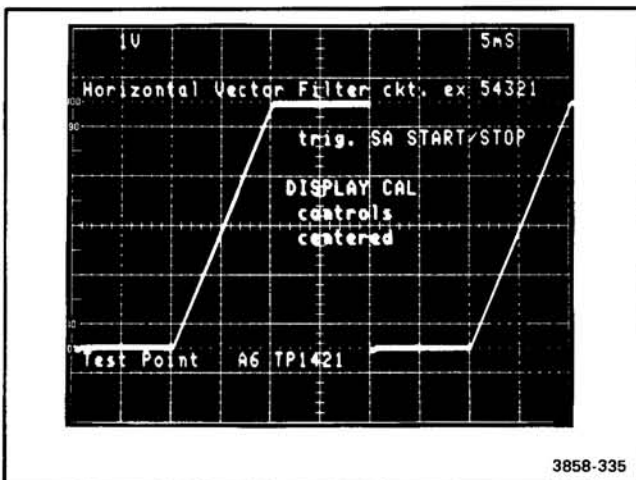

Figure 3-15. Waveform for Horizontal Vector filter test.
- Horizontal Vector Filter (54321). If this test fails, place the Display Board on an extender and run circuit exercise 54321. Use an oscilloscope to troubleshoot the Horizontal Vector Filter. Waveform Figure 3-15 is a typical output of this test. The SA Start/Stop line provides a stable oscilloscope trigger while using this test for troubleshooting.